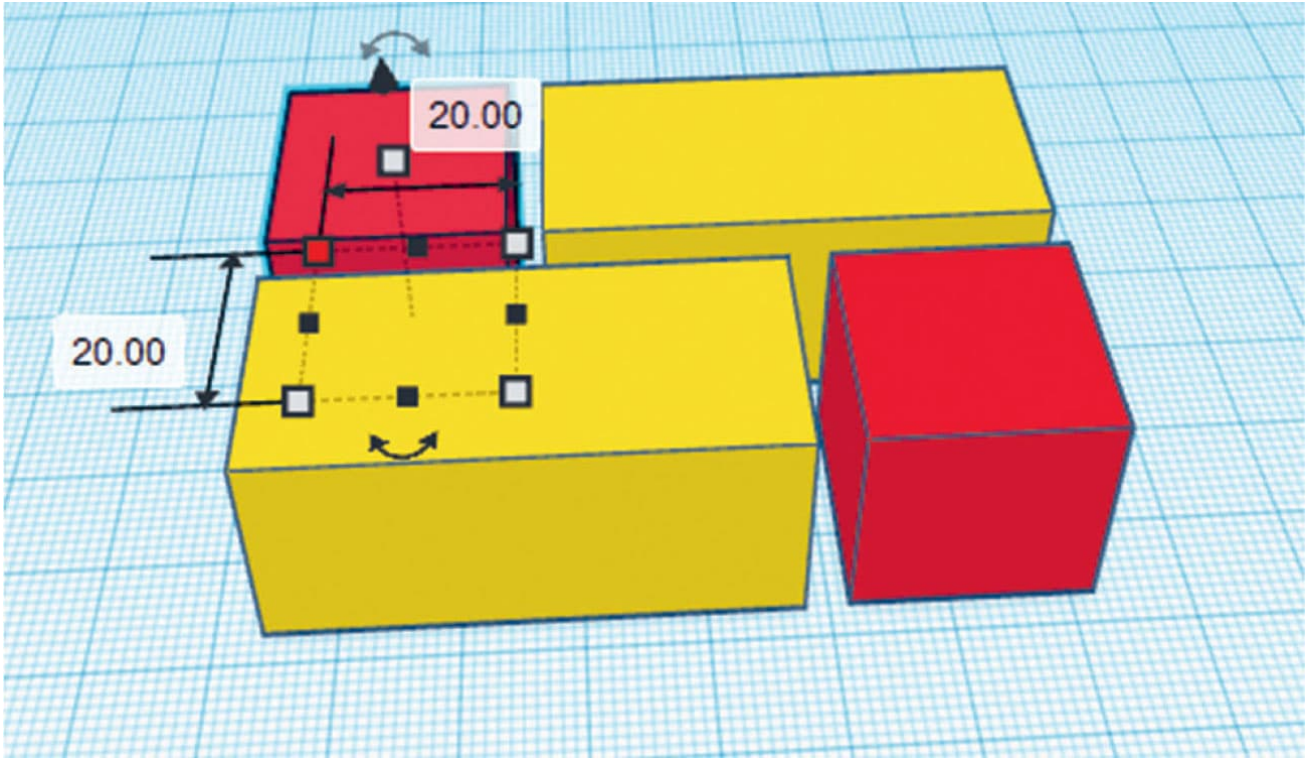

FIG. 2: Create four boxes for the puzzle shapes.
2. Then make a 44 mm $\times$ 20 mm box and make a copy of it. We now have two larger puzzle pieces as well. Fig. 2 shows all four pieces.